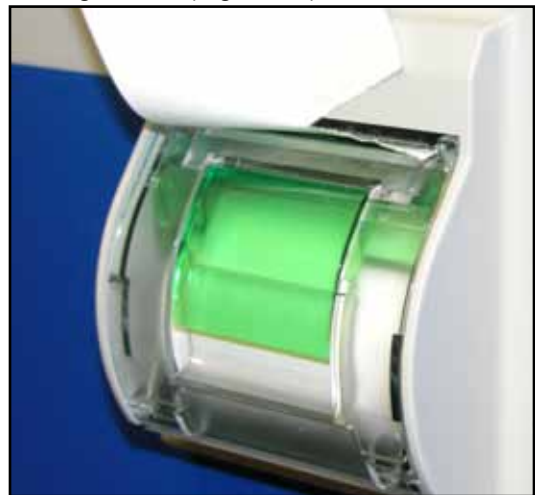

Figure 14: Tear Paper with Lifting Motion
- The paper tear-bar is located at the top. Tear the paper with a lifting motion (Figure 14).